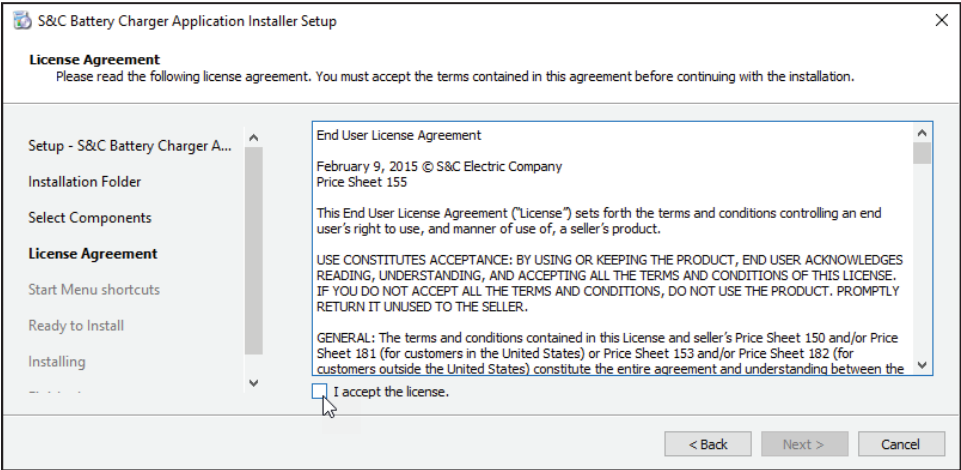

Figure 7. The end-user license agreement.
STEP 5. Read through the End User License Agreement and accept the license by clicking on the “I accept the license” check box. See Figure 7. Then, click on the **Next** button.